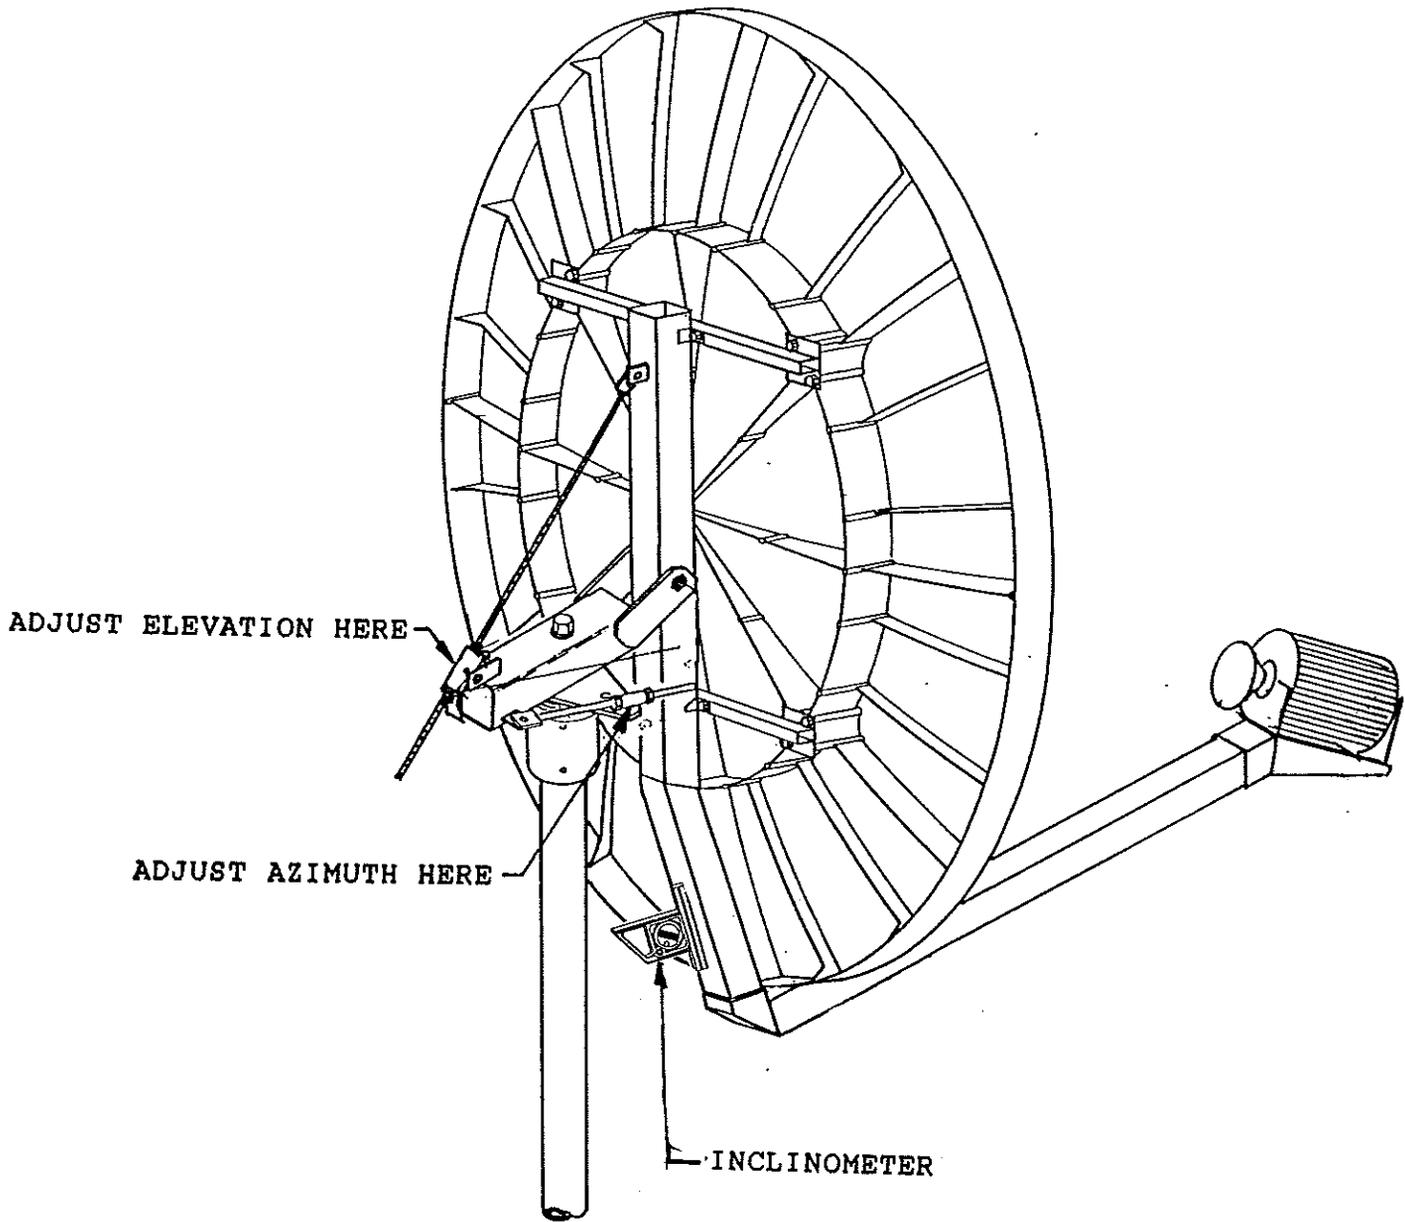

FIGURE 5.1-1
- Step 1: Attach an inclinometer to the angled part of the reflector support tube as shown in figure 5.1-1.